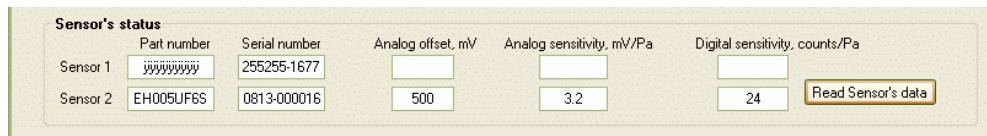

Figure 13: Reading the sensor's electronic signature.
- The *Sensor's status* panel allows the reading of the sensor's electronic signature. Upon clicking the *Read Sensor's data* button, the signature of the selected sensor will be displayed (see Figure 13).
Note that while the electronic signature is a standard feature of the LDE sensor, some pre-series sensors may not have had it written to memory. The data displayed in Figure 13 shows data from the electronic signature of sensor 2; sensor 1 has no such data available. The characters displayed in the *Part number* and *Serial number* fields have no meaning.